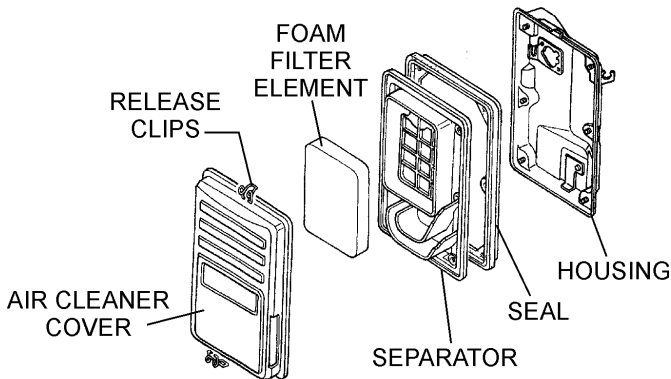

Figure 33. Engine Air Cleaner
1. Remove the air cleaner cover (Figure 33) and foam filter element as shown in .